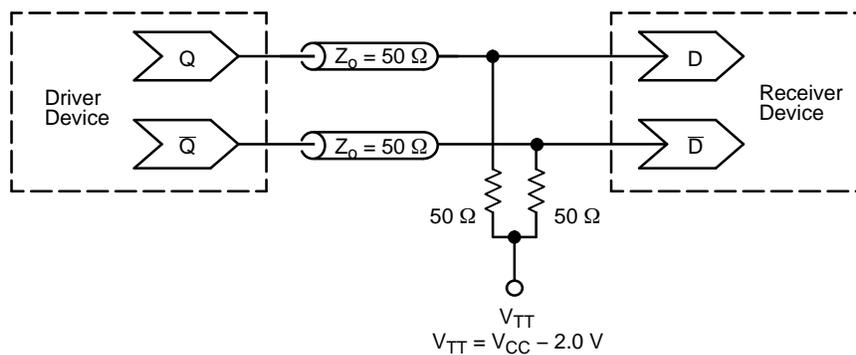

Figure 6. Typical Termination for Output Driver and Device Evaluation (See Application Note AND8020/D – Termination of ECL Logic Devices.)
- All outputs loaded with $50\ \Omega$ to $V_{CC} - 2.0\text{ V}$. See Figure 6.
12. All outputs loaded with $50\ \Omega$ to $V_{CC} - 2.0\text{ V}$. See Figure 6.
15. Measured with PECL 750 mV source, 50% duty cycle clock source. All outputs loaded with $50\ \Omega$ to $V_{CC} - 2.0\text{ V}$. See Figure 6.